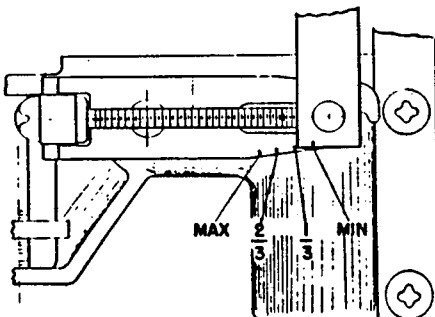

Fig. 27. Time-adjustment indexing
The tripping time may be varied within the limits shown on the characteristic curves by turning the time adjustment screw (4). Turning in a clockwise direction increases the tripping time; counterclockwise motion decreases it. The dashpot arm (8) is indexed at four points, MIN-1/3-2/3-MAX, as indicated in Fig. 27. When the index mark on the connecting link (9) lines up with a mark on the dashpot arm, the approximate tripping time as shown by the characteristic curve is indicated. The 1A and 1B character-